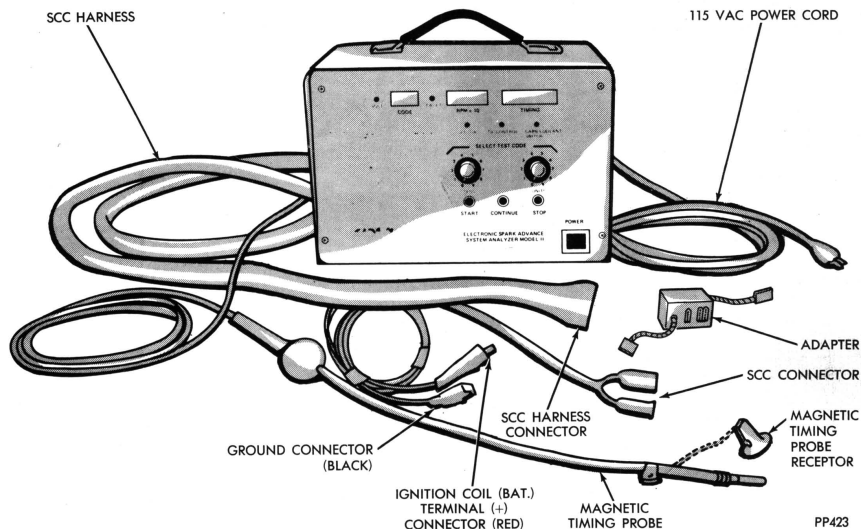

Fig. 1—ESA analyzer cables and connectors
The Chrysler Huntsville Electronics Division Model II Electronics Spark Advance (ESA) System Analyzer has been specifically designed for simplified operation in field servicing (Fig. 1). The Analyzer is rugged, portable and essentially maintenance free.
- (1) Connect adapter (Fig. 1, 3 and 4) (P/N 3840677) to analyzer.
- (2) Verify that the vehicle battery is fully charged (minimum specific gravity 1.220, temperature corrected).
- (3) Make sure the ignition switch is in the OFF position.